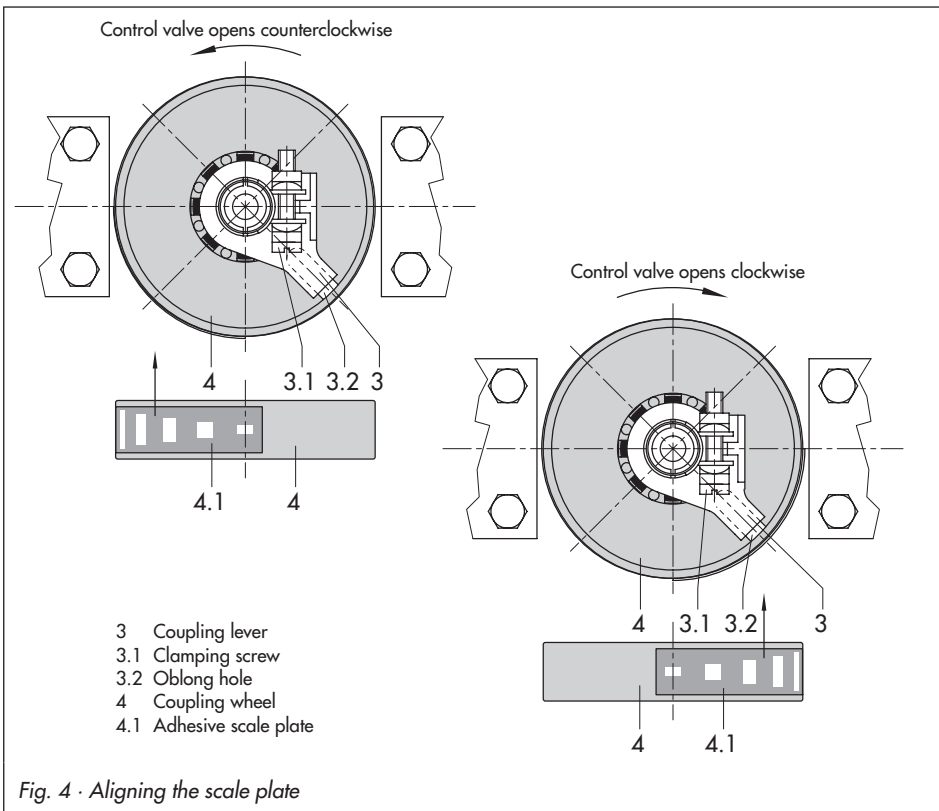

Fig. 4 · Aligning the scale plate
5. Place coupling lever (3) including hose clamp and clamping screw (3.1) loosely onto the coupling wheel (4) so that its contact stud slides into the oblong hole (3.2).
6. Carefully place positioner with mounting bracket (2) onto the rotary actuator. Make sure the positioner axis slides into the coupling lever (3). Observe direction for arranging the connections.
7. Screw the mounting bracket (2) to the actuator using four screws (7.1).
8. Fix scale plate (4.1) to the coupling wheel so that the arrow tip indicates closed position and can easily be identified when the valve is installed (see Fig. 4).
- ▶ Slightly loosen clamping screw (3.1, Fig. 4) so that the cam disc can be rotated together with the positioner shaft.